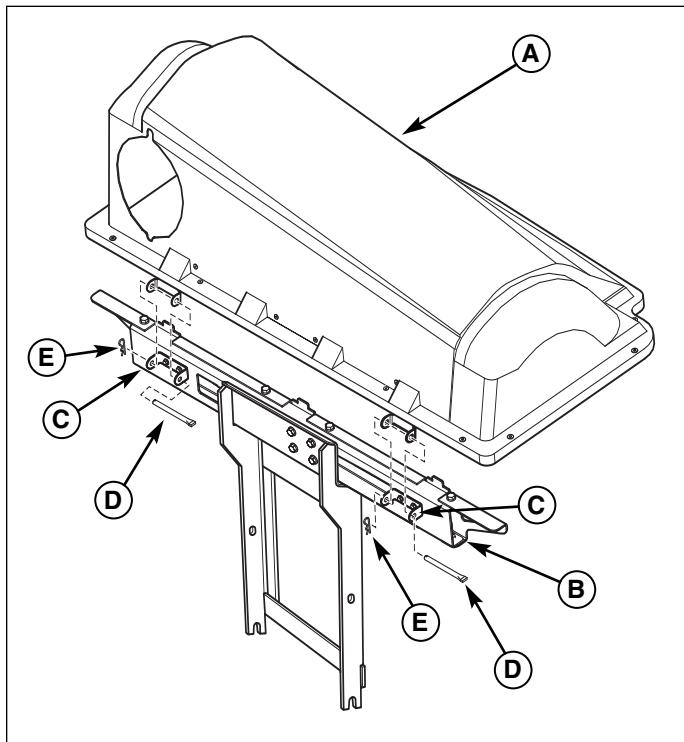

Figure 9. Install Cover Assembly
1. Attach the collector cover (A, Figure 9) to bag and cover support (B) using hinge pivots (C).
2. Secure the collector cover using cover hinge pins (D) and hair pins (E).